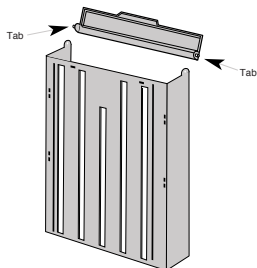

Figure 3
6. To attach the lid (Figure 3), align the lid tabs with the corresponding holes on the faceplate until the lid rests in position.